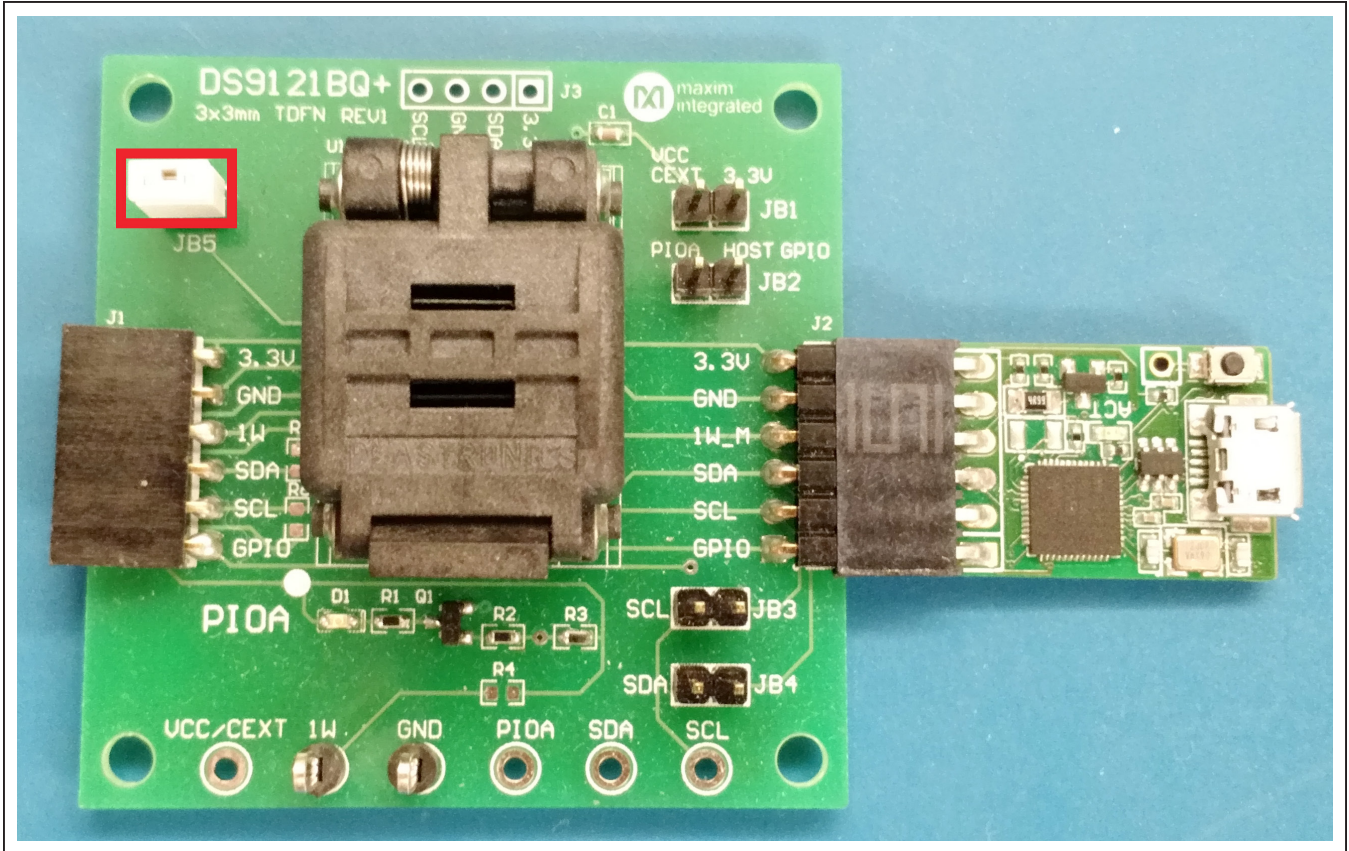
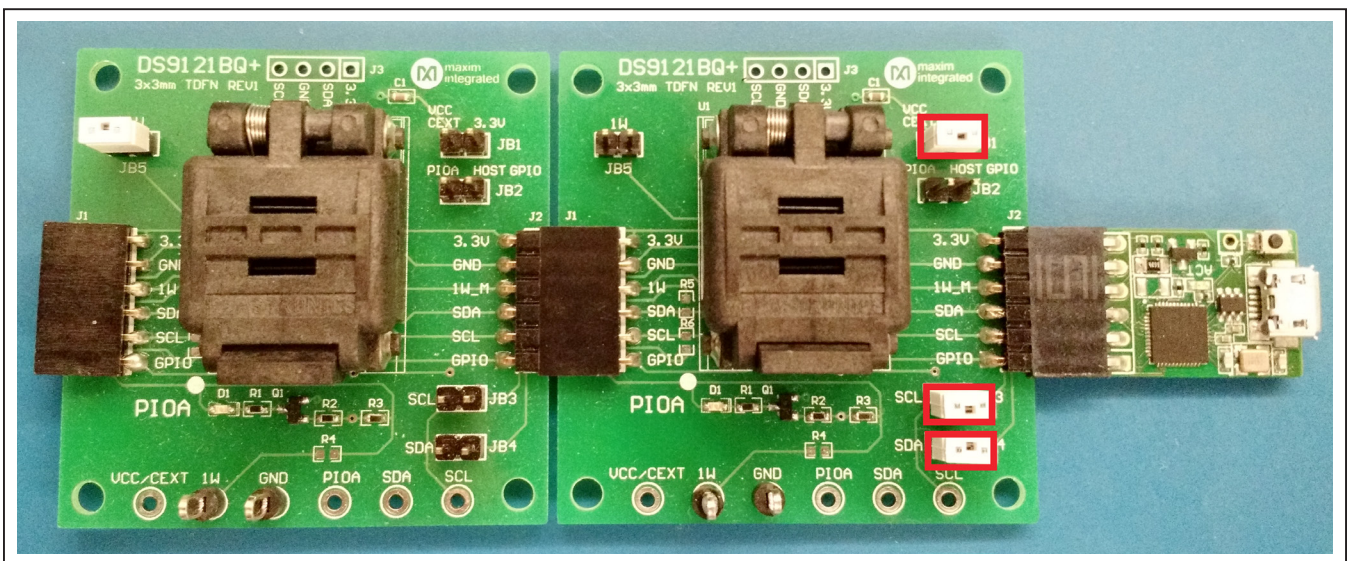

Figure 2. DS28E16 Connected to DS9481P-300#
Figure 3. DS2477 Connected to DS9481P-300# and DS28E16
- 5) Configure the first DS9121BQ+ socket board for DS28E16 by setting jumper JB5 per Figure 2.
- 7) Configure the second DS9121BQ+ socket board for DS2477 by setting jumpers JB1, JB3, and JB4 per Figure 3.
- 8) For select flows in the software that use the DS2477 coprocessor, connect both DS9121BQ+ boards to the DS9481P-300# as shown in Figure 3. For all other flow, connect only the first DS9121BQ+ board containing a DS28E16 to the DS9481P-300# as shown in Figure 2.